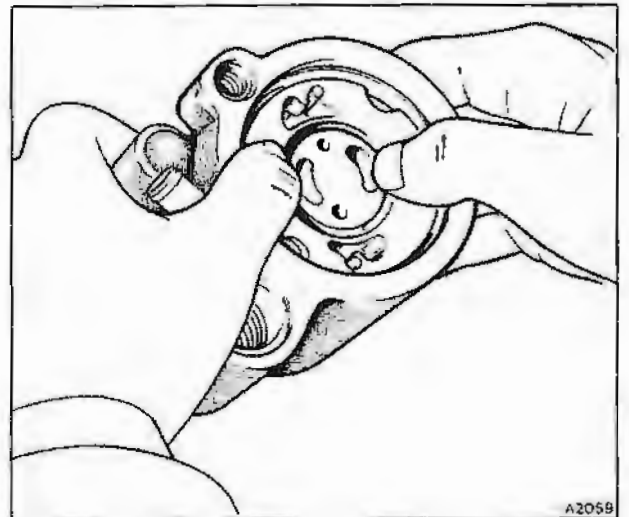

Fig. N3-8 Fitting the pressure plate
10. Apply pressure to the plate at its outer edges (see fig. N3-8). Never use excessive force as this may cause permanent distortion.